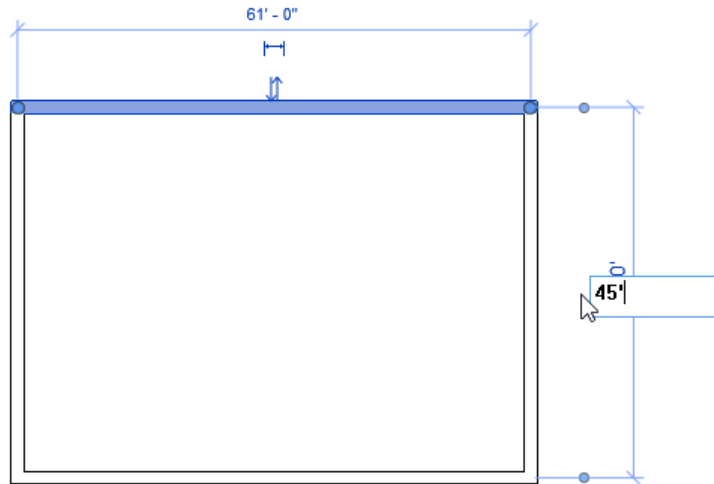

Figure 3-78 Entering vertical dimension in the edit box
6. Click on the vertical temporary dimension and enter **45' (13716 mm)** in the edit box displayed, as shown in Figure 3-78 and press ENTER.